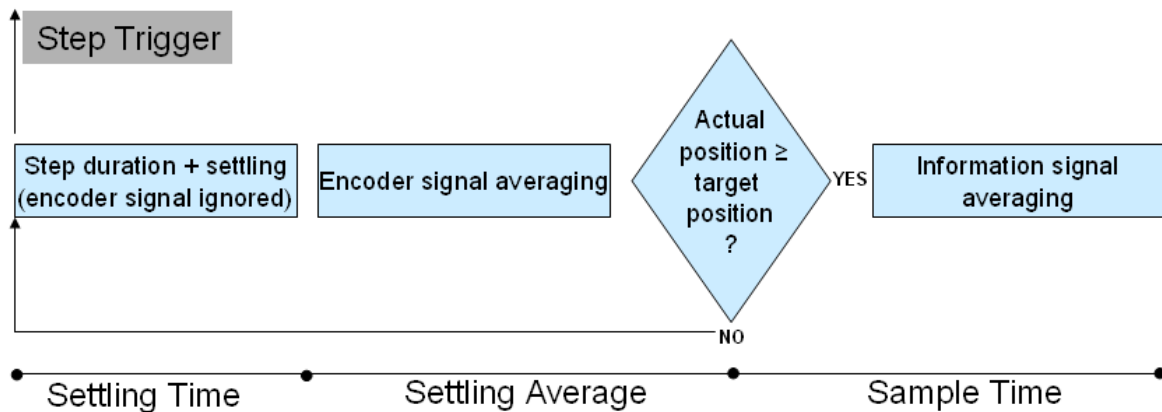

Figure 27: The closed loop step scan algorithm.
The closed loop algorithm is shown in Figure 27. Upon approaching a grid point, the actual position is compared to the target position. Data acquisition is started if the actual position is larger or equal than the target position. The positioner will always move in positive direction to avoid hysteresis errors from the position encoder. Obviously, a single step size of the positioner must be much smaller than the spacing between to points of a grid to reach a good positioning accuracy.
- 11 – Settling Time: waiting period after the trigger of a coarse positioner step. Details are shown in Figure 27.
- 11 – Settling Average: averaging period for the encoder signal after a coarse positioner step. Details are shown in Figure 27.